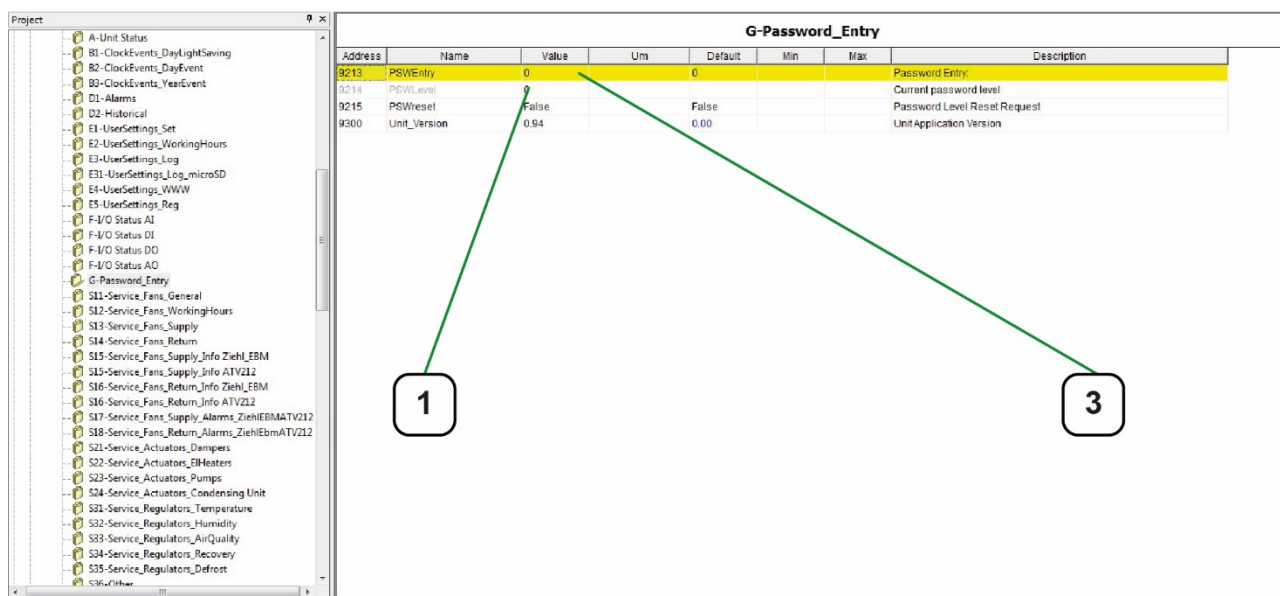

Fig 3 - “G-Password_Entry” Folder
2. visually read the level of current password in the value field of the PSWLevel parameter (1 - Fig 3 - on pag. 14);
7. edit the value previously calculated on the value field of the PSWEntry parameter (**3 - Fig 3 - on pag. 14**) in decimal format.